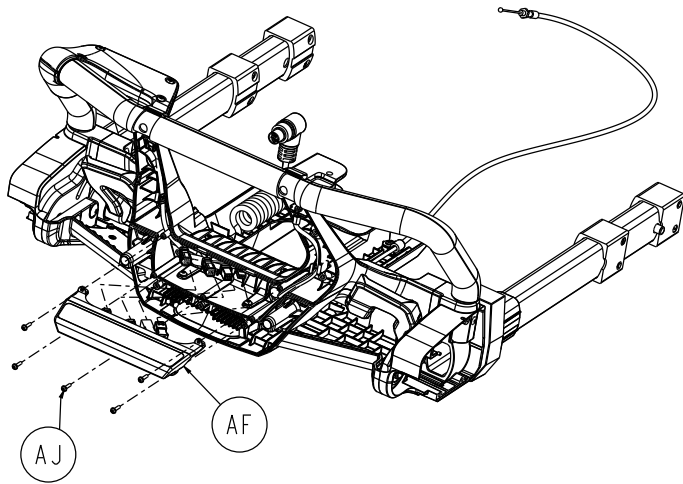

Figure 28 –
20. Using a T10 Torx driver, remove the five round washer head tapping screws (AJ) that secure the light module cable assembly (AF) (Figure 28). Save the screws. Remove and save the light module cable assembly.